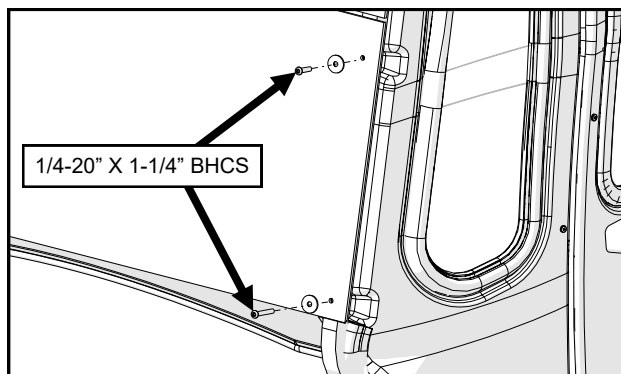

Fig. 4.2 (re-install windshield - left side)
**4.2** Re-install windshield using supplied hardware, per figure 4.2.